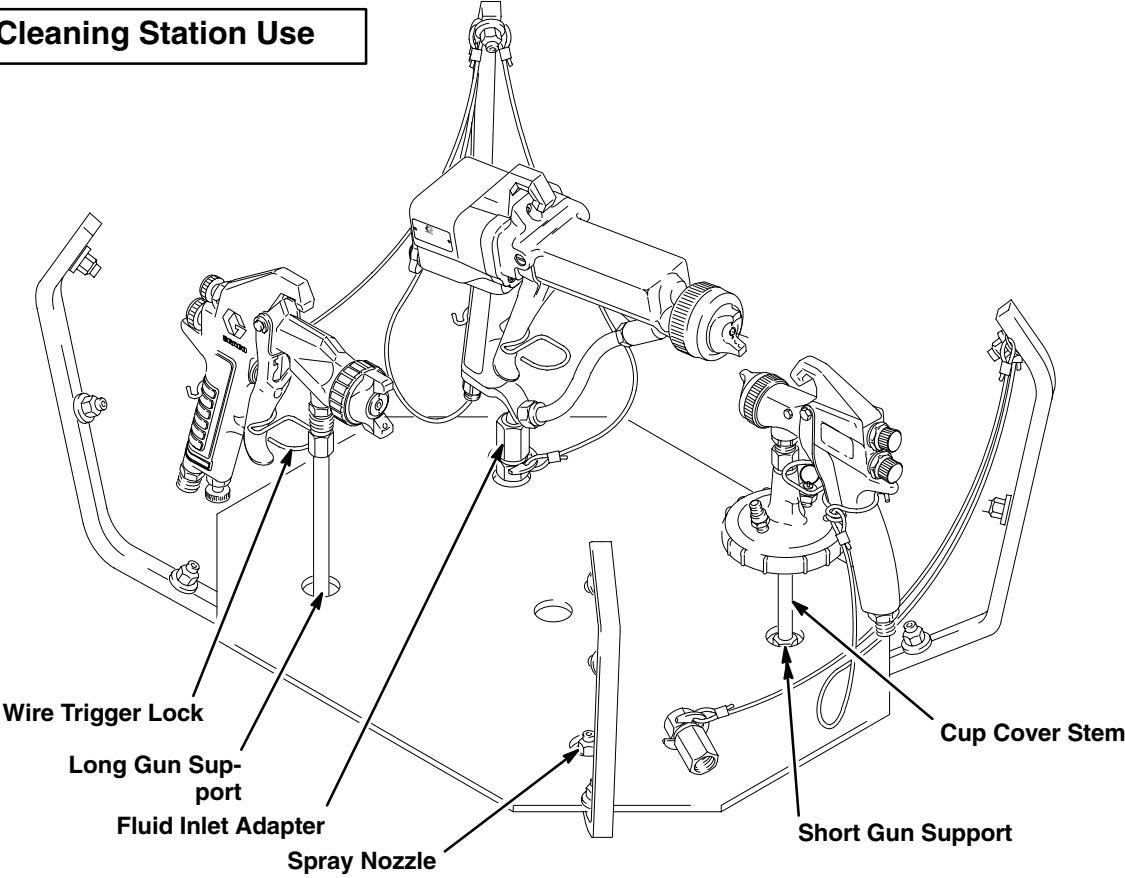

Fig. 3
3. To lock the gun trigger in the open position, install the wire trigger lock around the gun handle and trigger as shown in Fig. 3.
(See Fig. 3, page 12)
Set the cup cover stem over the short gun support as shown in Fig. 3.
Set the gun fluid inlet over the long gun support as shown in Fig. 3.
3. Screw the fluid inlet adapter onto the PRO-gun fluid inlet as shown in Fig. 3.
Set the pressure cup over the spray nozzle. Refer to Fig. 3.